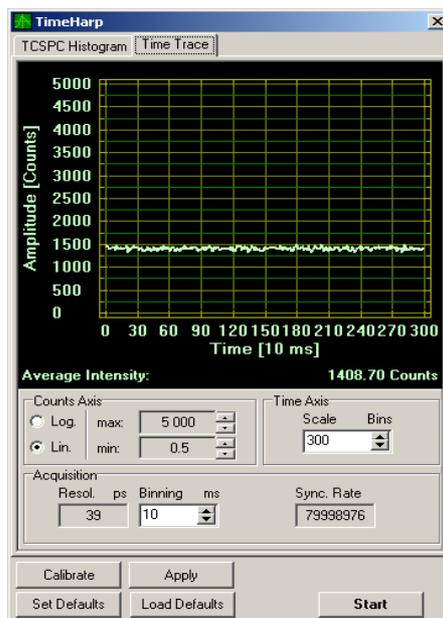

Fig. 5.1: The Time Trace tab from the Oscilloscope window
5. Activate the **oscilloscope window** in the SymPhoTime software () and select the Time Trace - tab with settings shown in Fig. 5.1. Important is the setting of a **linear count axis**.